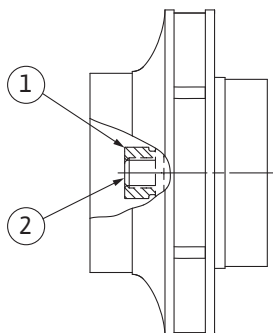

Fig. 106: Correct position of the impeller nut after installation
8. Hold the shaft with open-end wrench (22 mm width across flats) and tighten the impeller nut to the prescribed tightening torque (see table "Tightening torques" [► 148]). The nut (Fig. 106, Item 1) has to be about ± 0.5 mm flush with the shaft end (Fig. 106, Item 2). If this is not the case, release the nut and repeat steps 4 – 8.